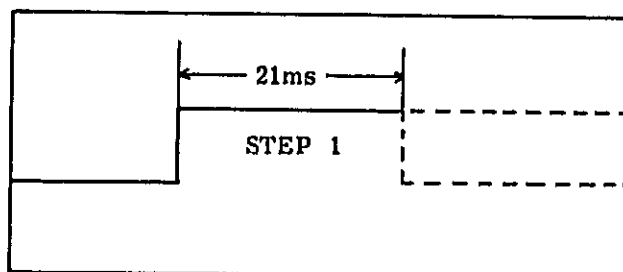
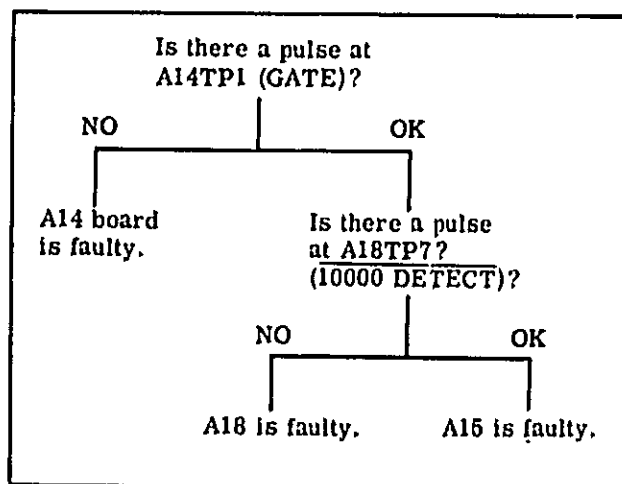

Figure 8-24. STEP 1 Signal.
Figure 8-25. Isolation to Boards A14, A15 or A18.
- (ii) Only STEP 1 signal can be seen (Refer to Figure 8-24): If STEP 1 signal is completed ( $\approx 21\text{ms}$  positive pulse), A15 board is faulty. If not, follow Figure 8-25.